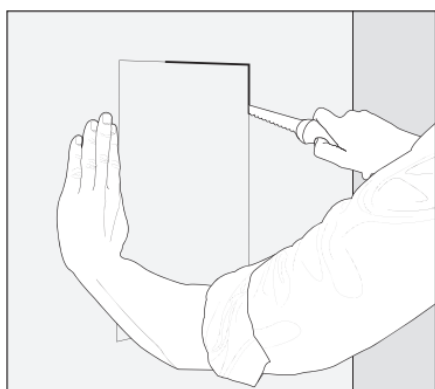

Fig. 2c
3) Cut a hole as indicated (Fig. 2c).